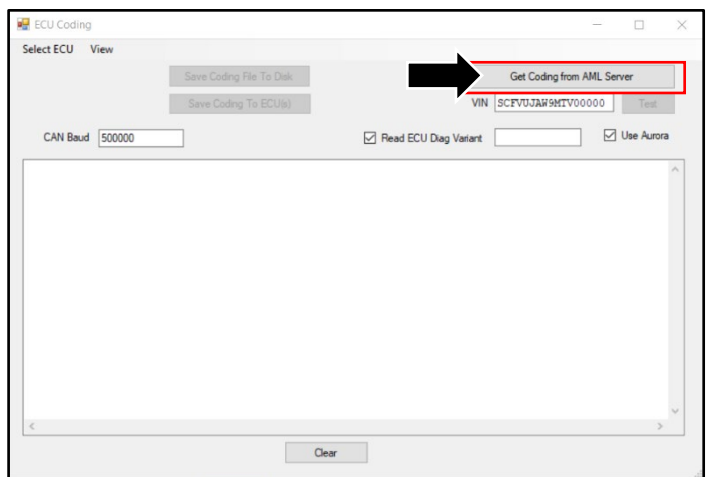

Figure 7
11. Select "Get coding from AML Server" (refer to Figure 7).